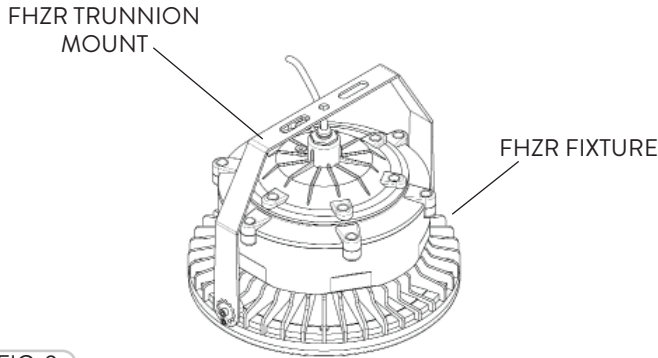

FIG. 9
- 1 The FHZR Trunnion Mount is included and attached to all FHZR Fixtures (Fig. 9). The FHZR Trunnion Mount can be used to surface mount the FHZR Fixture.